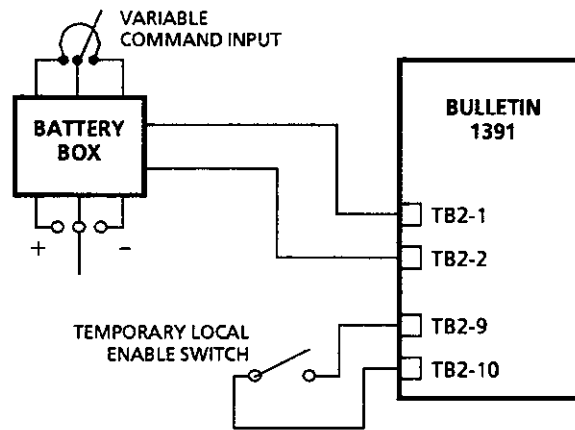

Figure 7.1 – Local Control Connections
- 8. The wires connected to terminals 9 and 10 of TB2 must be marked and removed to allow for local operation of the Enable circuit. Connect a suitable temporary switch between these terminals and insulate the switch connections. See Figure 7.1.
- 9. The wires connected to terminals 1 & 2 of TB2 (Velocity Command Input) must be marked and removed. A $\pm 10V$ DC local control (battery box) is to be connected to these terminals. See Figure 7.1. The polarity of the Command signal from the battery box should be the same as the actual control source to assure correct motor rotation when the controller is placed into operation as part of the system.